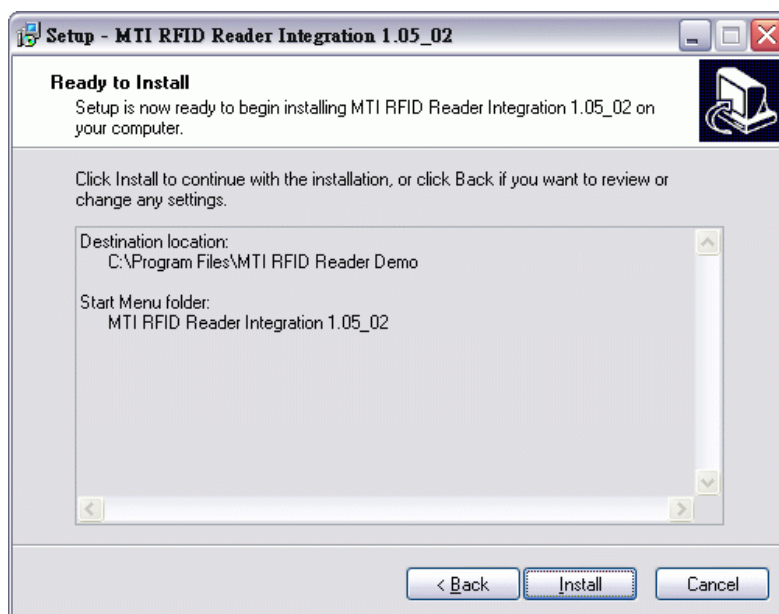
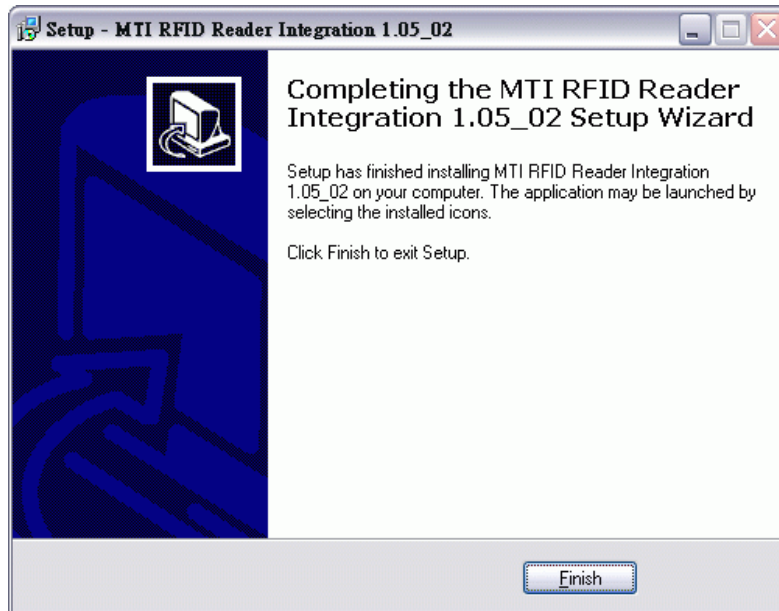

Fig. 5 Ready to install.
Fig. 6 Finish the installation.
**Step 4:** Install the program and finish wizard, shown in Fig. 5 and Fig. 6